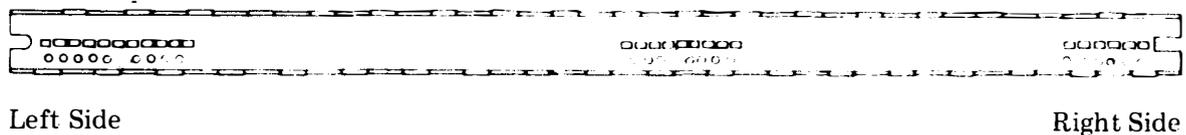

Fig. 35—Channel
*Note:* Left side has curved slot; right side has square slot (Fig. 35).